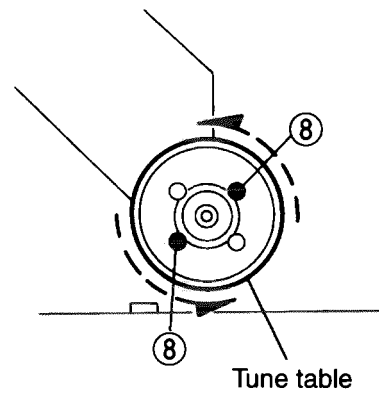

Fig.25
2. While turning the turntable, remove the two screws (8) retaining the spindle motor and take out the spindle motor (See Fig.25).